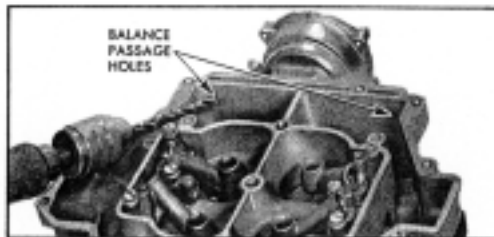

Fig. 5 Drilling Balance Passage
4. Using a 3/16" drill, drill out the balance passage holes (Fig. 5). Note: These holes are drilled at an angle and care should be used to see that drill does not contact other areas of carburetor while drilling. Position drill as shown. Remove all burrs and chips after drilling.